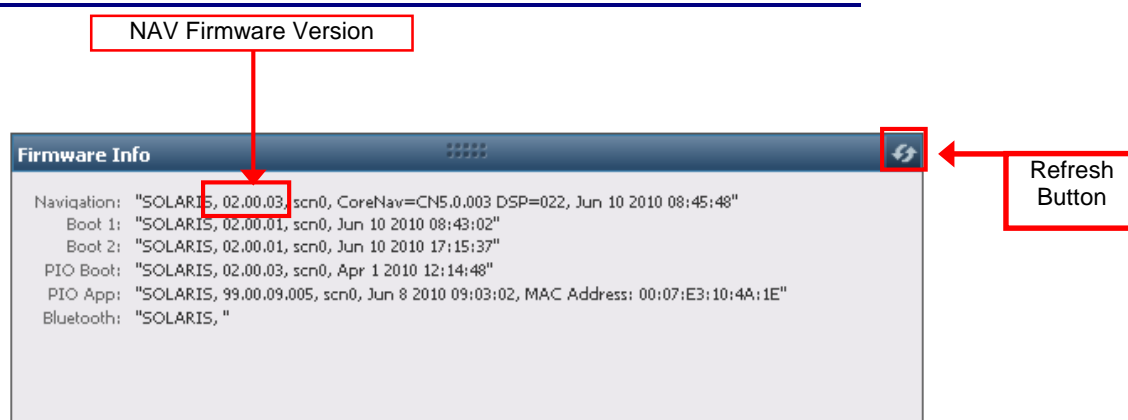

Figure 57: Firmware Window -- Example of Installed Firmware
2. Click  (refresh) on the *Firmware Info* window (see Figure 57) to view the current output data.
The firmware is identified by version number. For example, the NAV firmware displayed in Figure 57 is version 02.00.03. Firmware ensembles are always referenced to the Navigation Firmware Number.
10. Check the *Firmware Info* window (see Figure 57) to view the current versions of all uploaded firmware.